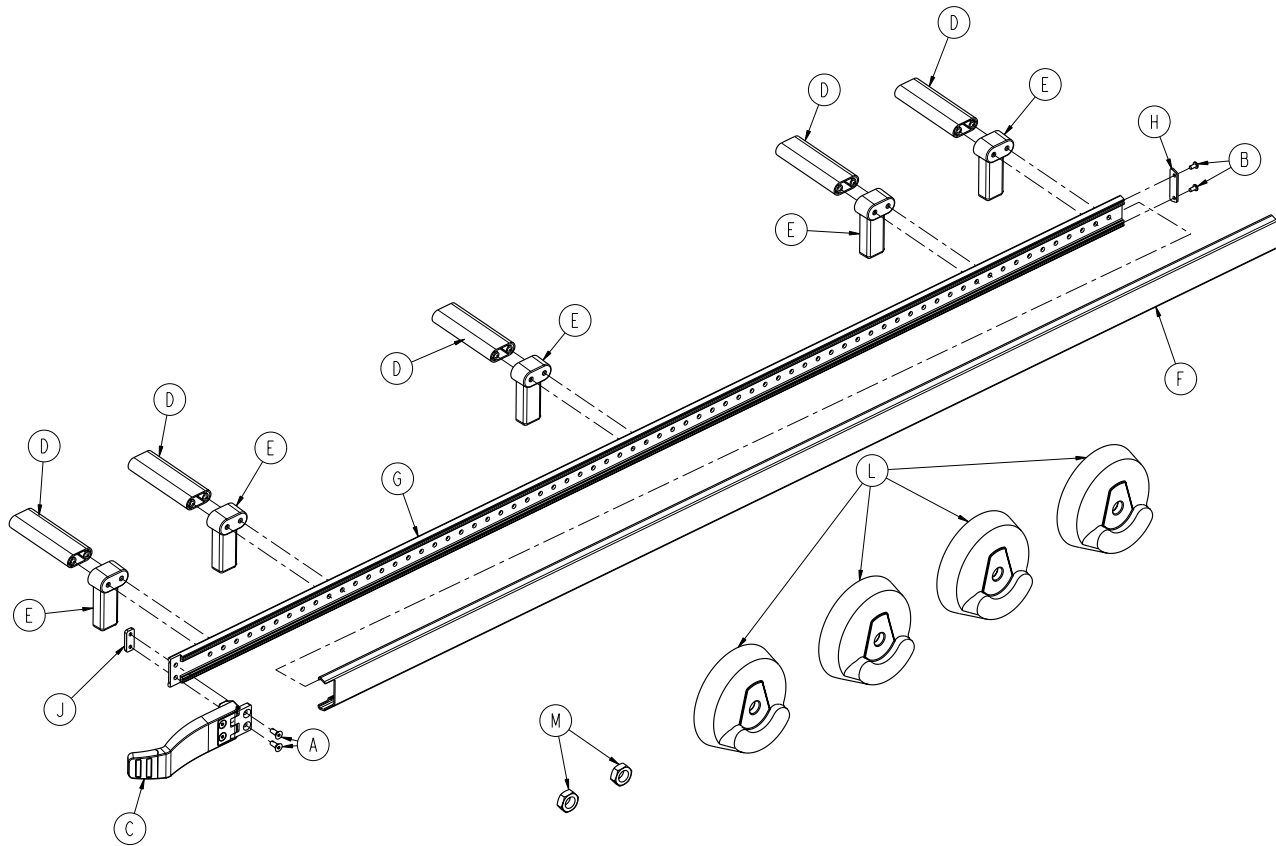

Figure 29: Optional Wheel Guide Kit Components - 6390-027-000
- Using a pencil, mark each of the holes in the five areas where a wheel guide support (E) will be located on the wall (cabinet) (Figure 29).
14. Slide the wheel guide rail bumper (6390-001-175) (F) over the wheel guide rail from the foot end of the vehicle patient compartment to the head end.
15. Using a 5/32" hex wrench, install the two flat head cap screws (0001-195-000) (A) through the wheel guide assembly (6390-001-017) (C) hinge and the wheel guide rail to the wheel guide nut (6390-001-191) (J) as shown in "Figure 29: Optional Wheel Guide Kit Components - 6390-027-000" on page 43.
16. Install the two toplock locknuts (0016-060-000) (M) and four wheel covers (6390-001-206) (L) to the patient right side of the cot that is to be used with the wheel guide assembly. See "Installing Cot Wheel Covers" on page 45.